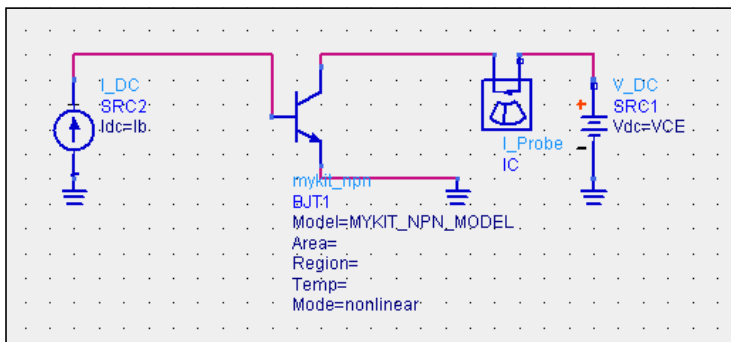
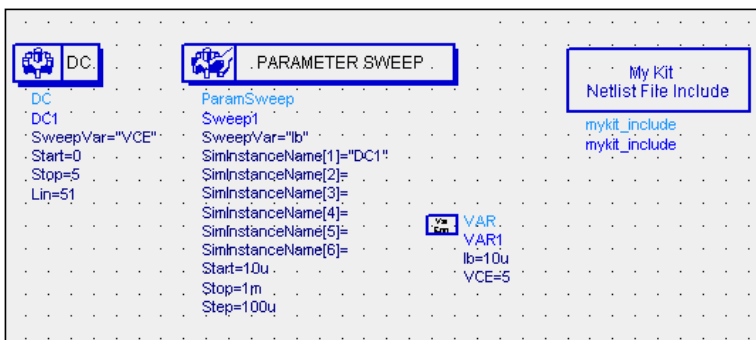

Figure 3-4. Example Schematic
Figure 3-5. Simulation and Include Components
3. Using the BJT and Include components from your design kit, enter the schematic shown in Figure 3-4.
5. Insert the simulation components and include component shown in Figure 3-5 onto the schematic started in step 3. Figure 3-4 and Figure 3-5 will be combined into one schematic.